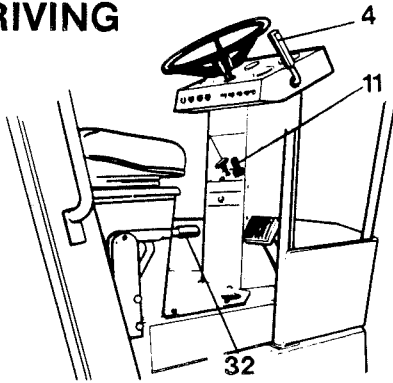

Fig. 8 Operator's platform
(Maintain max. speed when the forward/reverse lever (4 in Fig. 8) is at full throttle.)
- 4 Release the handbrake (32 in Fig. 8), by moving the lever forward and down. The handbrake warning lamp should then go out.
- 6 First check that the road is clear both in front of and behind the roller. Move the forward/reverse lever (4 in Fig. 8), gently forward or backwards - depending on the desired direction of travel.